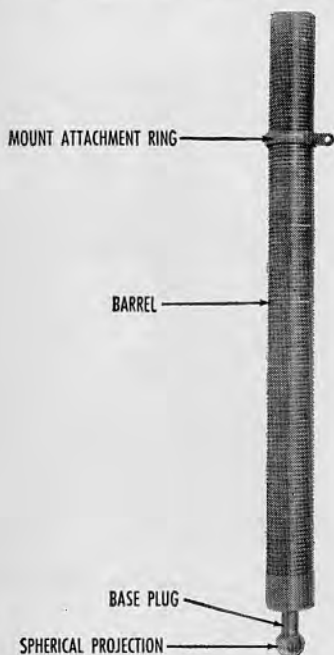

Fig. 30.2 Barrel.
2. The mortar barrel is a single unit while the mount consists of two units, the bipod and the base plate. (Figs. 30.2, 30.3, 30.4).